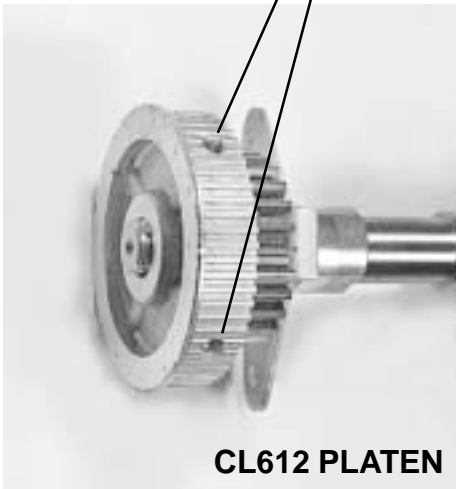

Fig. 6-33
7.	If unit is CL612, remove pulley from end of platen by loosening two set screws and sliding off shaft Fig. 6-33, 6-34